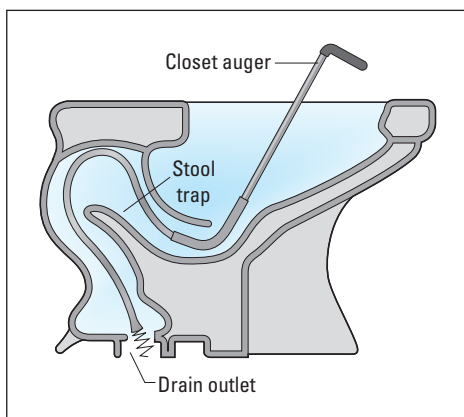

Figure 3-12:
- ✔ **Toilet auger:** When a plunger doesn't work, a toilet auger, shown in Figure 3-12, is the next option. This tool is designed to fit a toilet bowl and clean out the trap. Fit the handle into the bowl and turn the crank while slowly pushing the flexible shaft through the hollow rod until it hits the blockage. (Chapter 5 offers more hints for unclogging a toilet.)